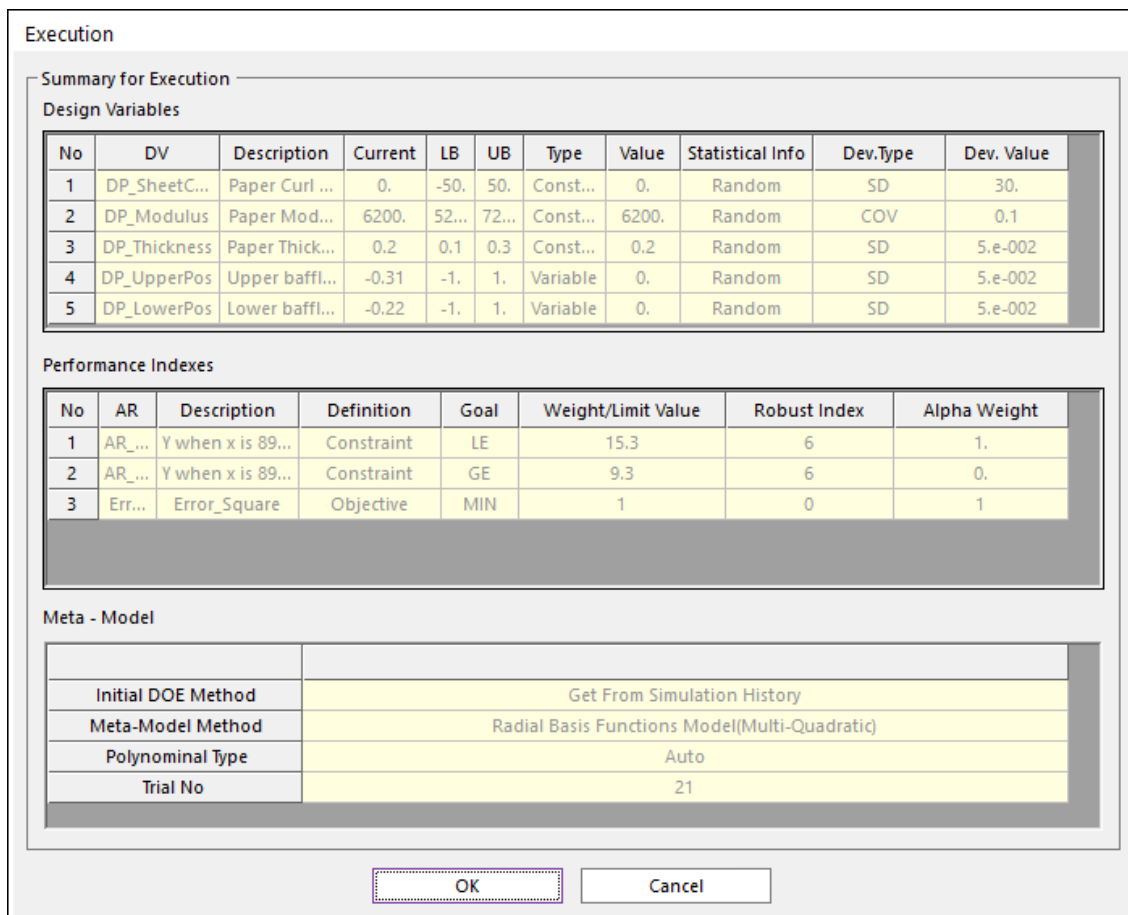

Figure C-5-3 Summary of 6-Sigma design optimization formulation
- To Return the '**Optimization Control**' tab, click **Close** button. We will the same convergence tolerances and the same validation information. Thus, click the **Execution** button. If all information is the same as Figure C-5-3, then push the **OK** button.